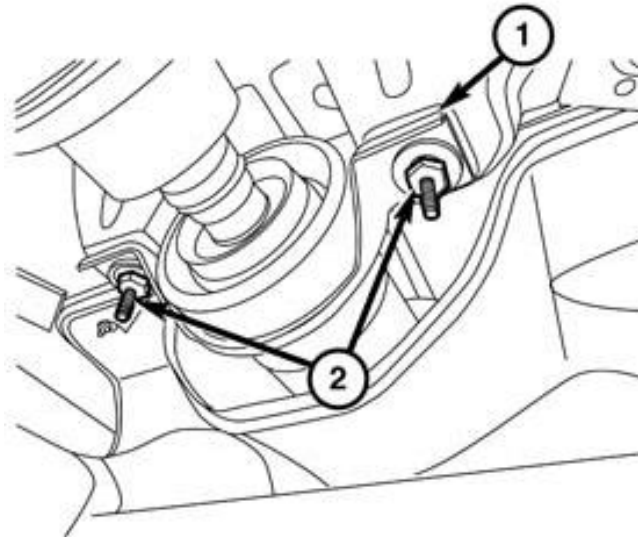

Figure 52 – Center Bearing
54. Install the center bearing (1). Tighten to 45 N·m (33 ft. lbs.) (Figure 52).